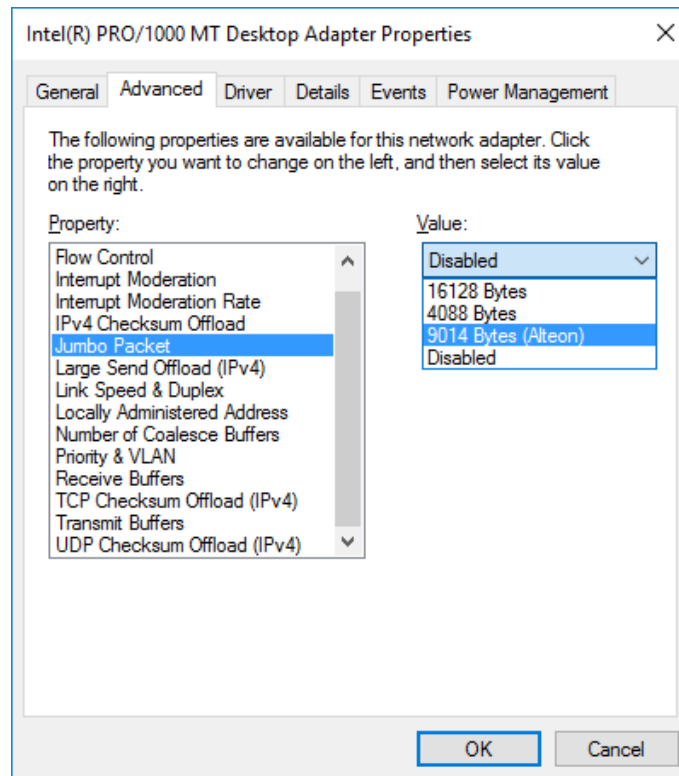

Figure 9: Jumbo Frames configuration in Windows
5. Select 'Jumbo Packet' and choose the desired packet size (see Figure 9)